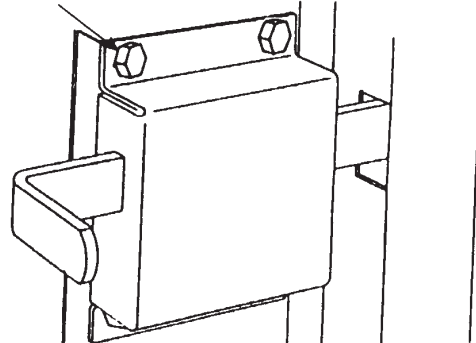

Fig. 12-A
or (4) 1/4" × 1" lag screws (Fig. 12-A).